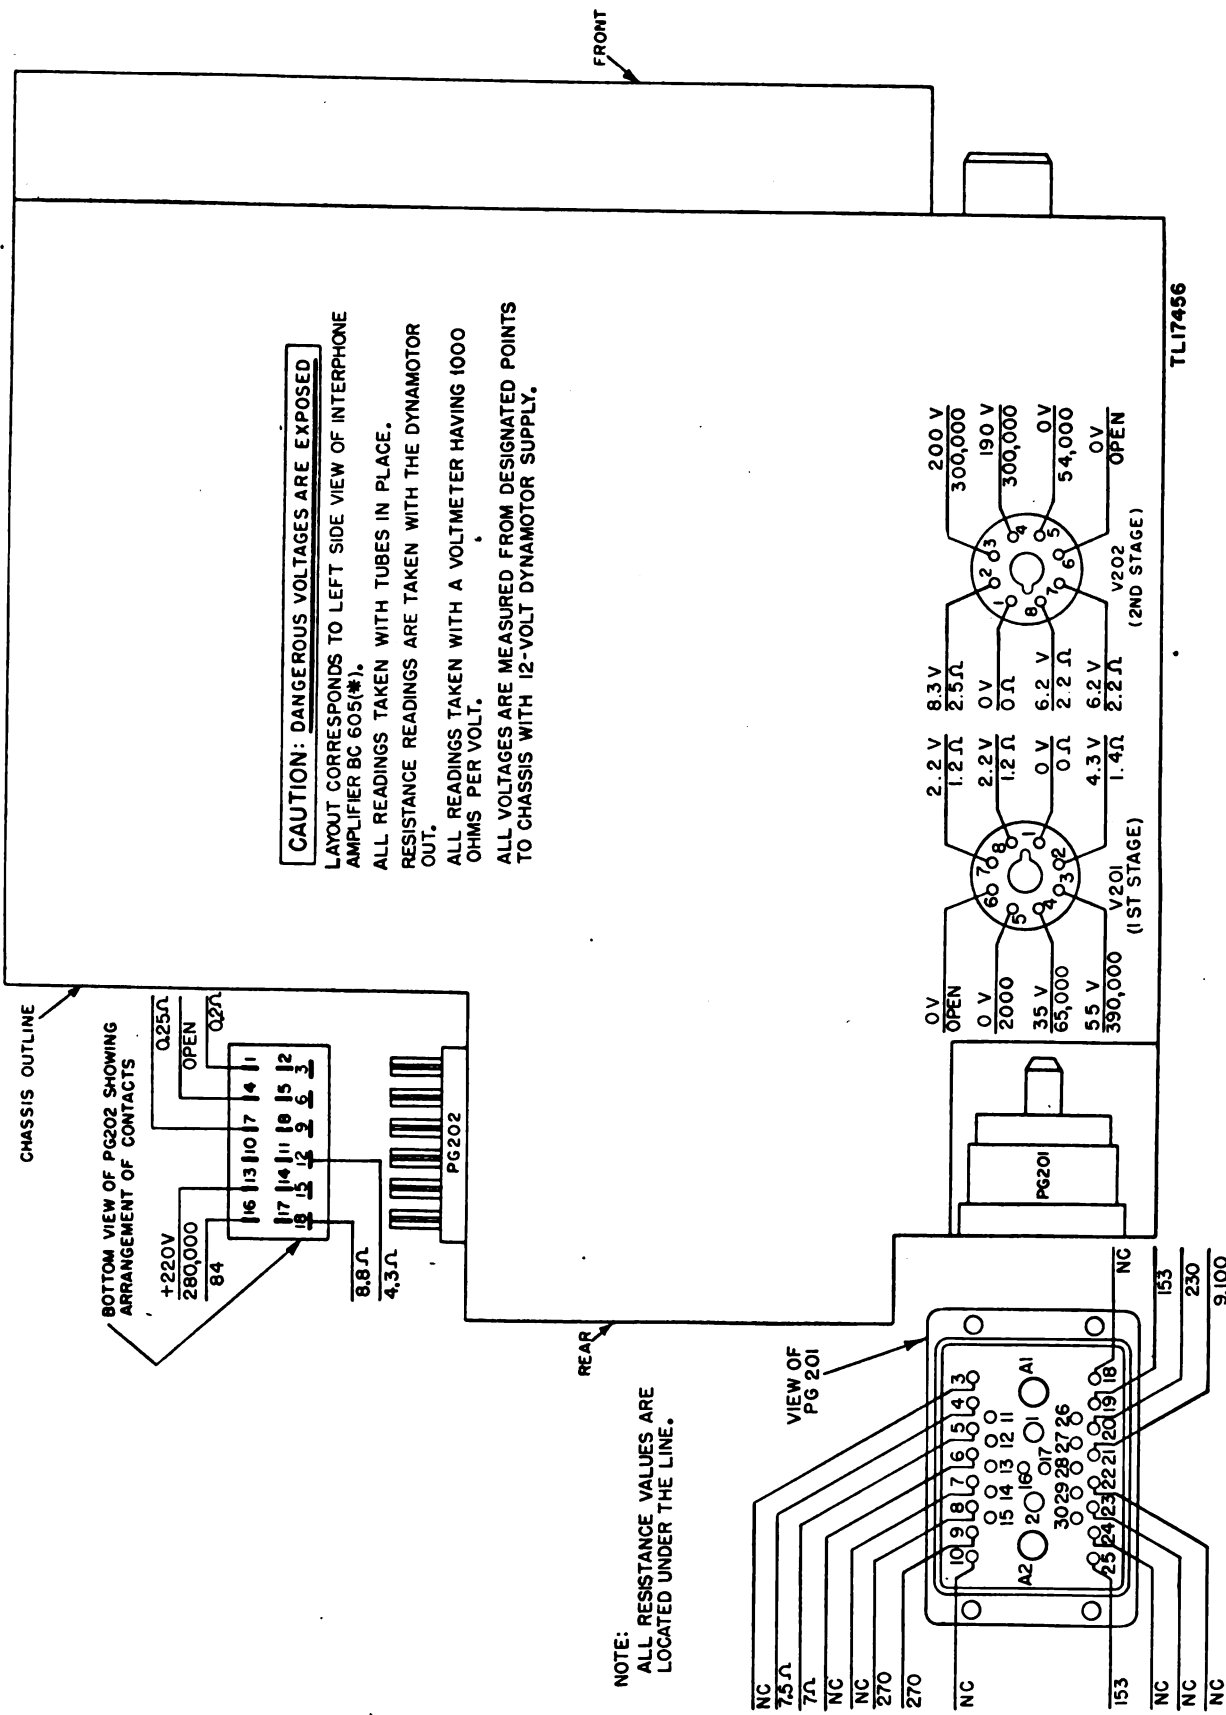

Figure 15. Interphone Amplifier BC-605-(*), resistance-voltage diagram.
b. INTERNAL RESISTANCE OF INTERPHONE AMPLIFIER BC-605-(*). (1) *Resistance at terminals of plugs PG201 and PG202.* Measure the pin-to-chassis resistance at each terminal of plugs PG201 and PG202. See figure 15 for the required ohmmeter readings.
(2) *Resistances at tube socket terminals.* Measure the pin-to-chassis resistance at each terminal of tube sockets marked V201 and V202 (fig. 15). The resistance at each terminal should correspond with that shown in figure 15.
f. Measure the pin-to-chassis voltages at each receptacle of the tube sockets marked V201 and V202 (fig. 15), using a 1,000 ohm-per-volt meter. See figure 15 for the required voltage readings. Voltage readings differing more than ± 10 per cent from those in figure 15 indicate trouble.